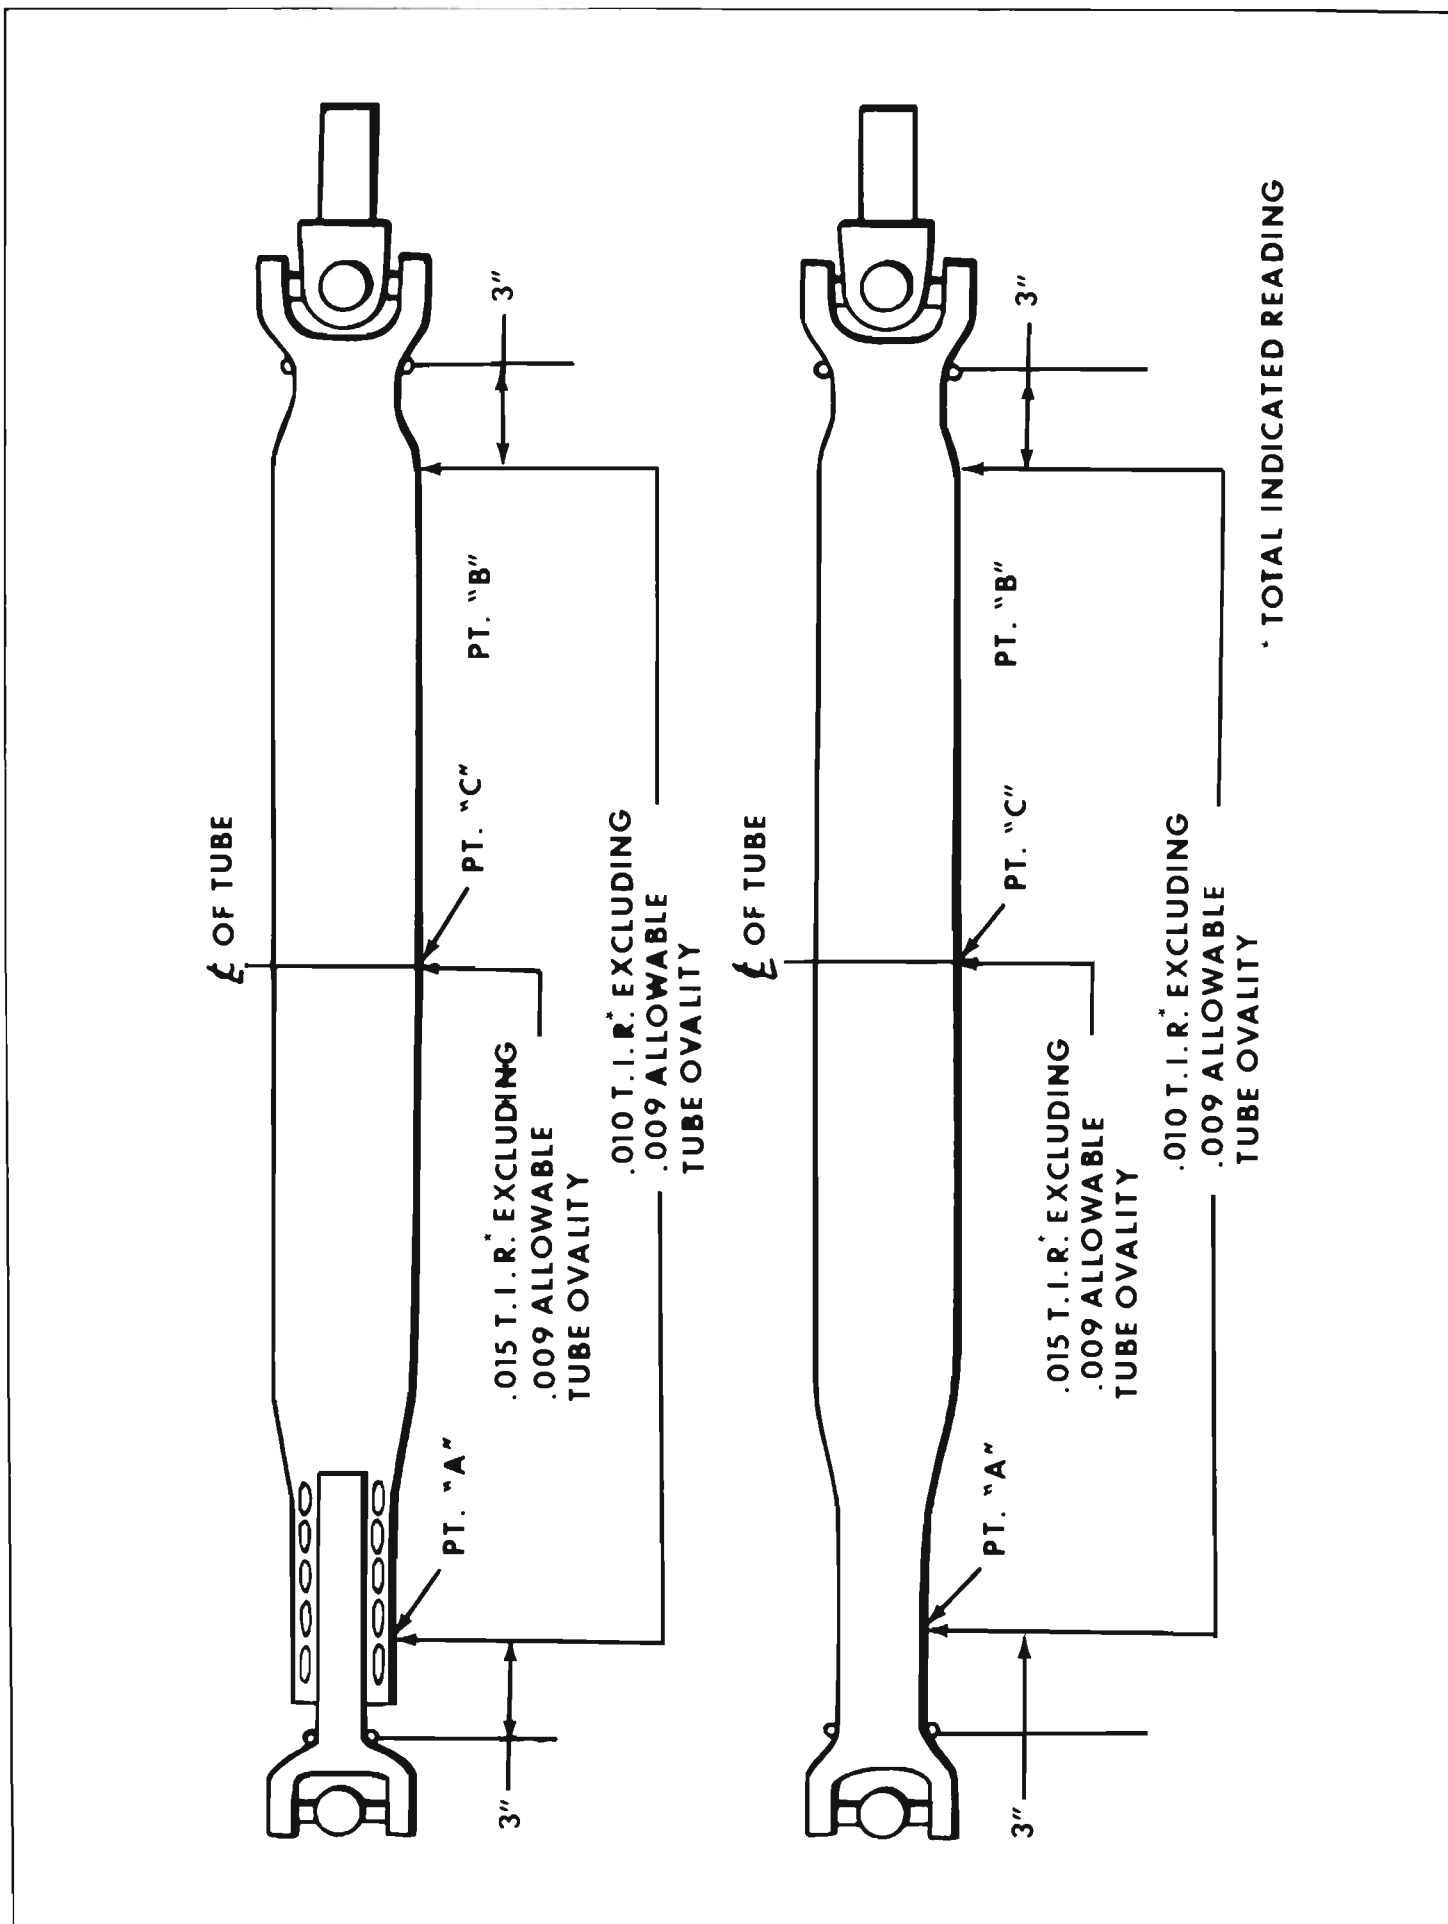

Figure 6-55—Propeller Shaft Run Out
2. Mount a dial indicator on a movable support that is high enough to permit contact of indicator contact button with propeller shaft. Readings are to be taken at points indicated in Figure 6-55.